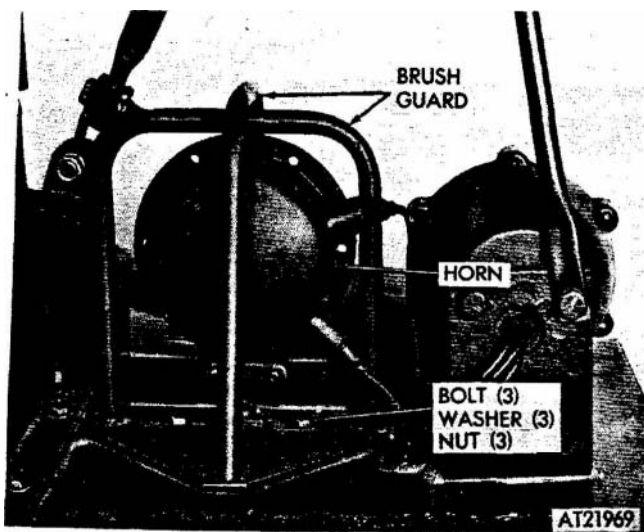

Figure 2-317. Horn brush guard, removal and installation.
- (1) Remove headlamp brush guard (refer to para 2-104).
- (2) Remove horn assembly (right fender only) (refer to para 2-106). Remove three screws and nuts securing horn bracket and brush guard assembly to fender. Remove bracket assembly (fig 2-317).
(2) Position horn bracket and brush guard assembly to right fender. Secure bracket assembly with three screws and nuts (fig 2-317). Install horn (refer to para 2-106).
(3) Install headlamp brush guard (refer to para 2-104).